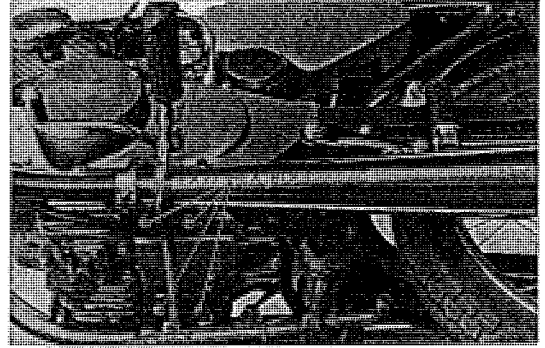

Fig. 4.48 Even tightening of muffler steps
- Evenly tighten the muffler with four 8×25 hex bolts to the underside of the crankcase. (Refer to Fig. 4.48)